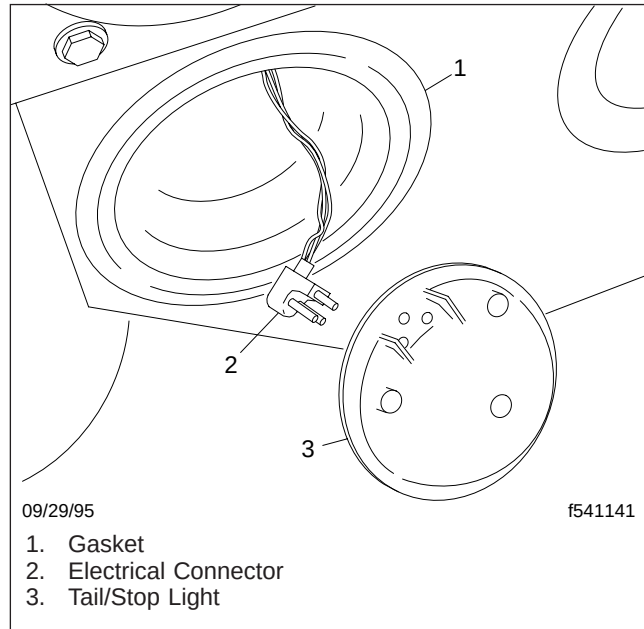

Fig. 5, Taillight Assembly
1. Press outward on the rear of the taillight until it comes out of the gasket. See Fig. 5.